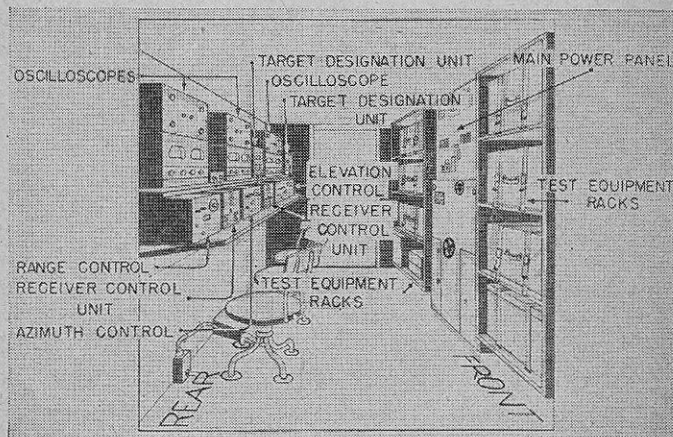

FIGURE 9.—Interior of trailer cab.
d. The raised portion of the trailer body at the front of the unit is a cab which houses the operating controls of the equipment. The interior of this cab is shown in figure 9.
■ 12. OPERATOR'S CONTROL UNITS.—*a.* As may be seen in figure 9, there are three operator's control units in the trailer cab. From left to right (looking toward the rear of the trailer) these units are RANGE CONTROL, AZIMUTH CONTROL, and ELEVATION (angular height) CONTROL. The three units are described below.